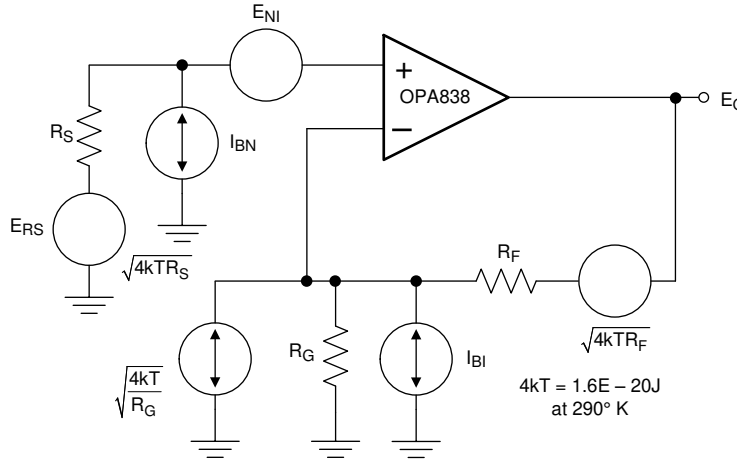
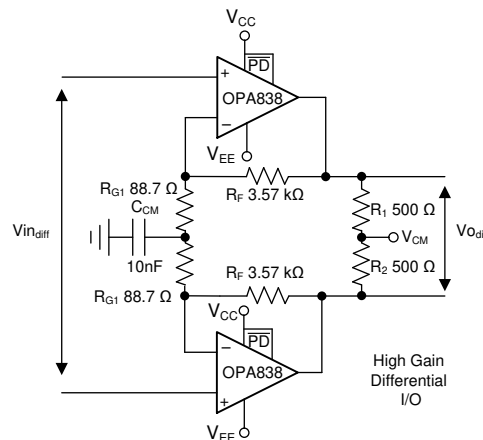
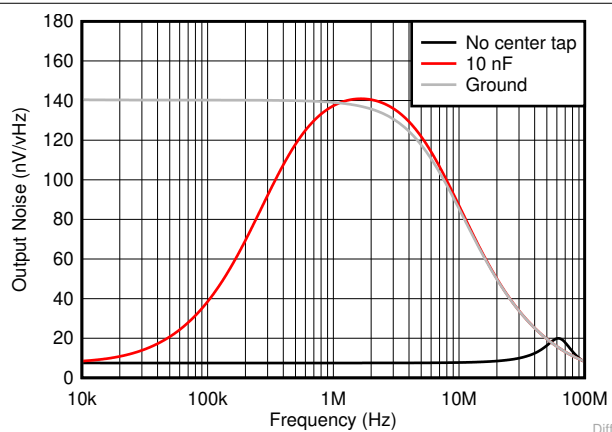

Figure 8-3. Op-Amp Noise-Analysis Model
Figure 8-4. High-Gain Differential I/O Stage
Figure 8-5. Common-Mode Output Noise for Differential I/O Design
The decompensated voltage feedback of the OPA838 op amp offers among the lowest input voltage and current noise terms for any device with a supply current less than 1 mA. Figure 8-3 shows the op amp noise analysis model that includes all noise terms. In this model, all the noise terms are shown as noise voltage or current density terms in nV/√Hz or pA/√Hz.
The total output spot noise voltage is computed as the square root of the squared contributing terms to the output noise voltage. This computation is adding all the contributing noise powers at the output by superposition, then taking the square root to return to a spot noise voltage. Equation 3 shows the general form for this output noise voltage using the terms presented in Figure 8-3.
A high-gain differential-to-differential I/O circuit can be used to drive a second-stage FDA or a differential-to-single-ended stage. This circuit is frequently used in applications where high input impedance is required (for example, if the source cannot be loaded). Figure 8-3 illustrates an example design where the differential gain is 41 V/V. An added element between the two R_G resistors increases the noise gain for the common-mode feedback. Make sure to provision for the added element; otherwise, a decompensated VFA (such as the OPA838) often oscillates. With only the R_G elements in the differential I/O design, the common-mode feedback is unity-gain and often causes high-frequency, common-mode oscillations. To resolve this issue, split the R_G elements in half and add a low-impedance path, such as a capacitor or a DC reference, between the two R_G values.
As an example design, start with the circuit in Figure 8-4.
- Assess the DC common-mode biasing on the noninverting inputs. The DC biasing must be in range and have a gain of 1 to the output. This is not illustrated in Figure 8-3.
- If a DC reference is used as the mid- R_G bias, setting the reference equal to the noninverting input bias voltage sets the output common-mode to that voltage. Using a capacitor as illustrated in Figure 8-3 accomplishes the same results.
- Set the total R_G value near the high gain values using Table 8-1. This 178- Ω total must be split for a center tap to increase the common-mode noise gain, as shown by the 88.7- Ω value in Figure 8-4.
- Simulate the common-mode noise with different elements on the R_G center tap as shown in Figure 8-5. Decide which is most appropriate to the application.
The common-mode loop instability without the R_G center tap is not often apparent in the closed-loop differential simulations. The common-mode loop instability without the R_G center tap can often be detected in a common-mode output-noise simulation as Figure 8-5 shows. Grounding the inputs Figure 8-4 and running an output-noise simulation for the common-mode tap point in Figure 8-3 shows a peaking in the noise at high frequency. This peaking indicates low-phase margin for the common-mode loop. Figure 8-5 shows this peaking in the lowest noise curve, with two options for improving phase margin. The first option used in Figure 8-4 is a capacitor to ground set to increase the common-mode noise gain only at higher frequencies. This increase can be seen by the peaking in the common-mode noise of Figure 8-5. Another alternative is to provide a dc voltage reference on the R_G center tap. This method raises the common-mode noise gain from dc and beyond. Neither of these latter two options show any evidence of low phase-margin peaking. These two options do increase the output common-mode noise significantly at lower frequencies. Typically, an increase in output common-mode noise is more acceptable than low-phase margin because the next stage (FDA, ADC, differential to single stage) rejects common-mode noise.